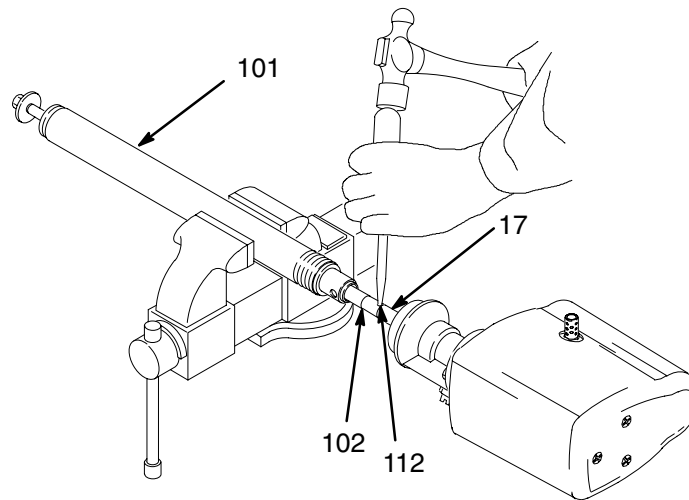

Fig. 7
5. Continue to screw the motor (1) off the cylinder (101) by hand, until the pin (112) joining the displacement rod (17) with the connecting rod (102) is accessible. Use a punch to drive the pin (112) out of the rods (17 and 102). See Fig. 7.
2. Install the pin (112*) in the hole to secure the two rods (17 and 102) together. Make sure the pin is flush or below the surface of the rod (17). Screw the motor (1) onto the cylinder (101) by hand. See Fig. 7.